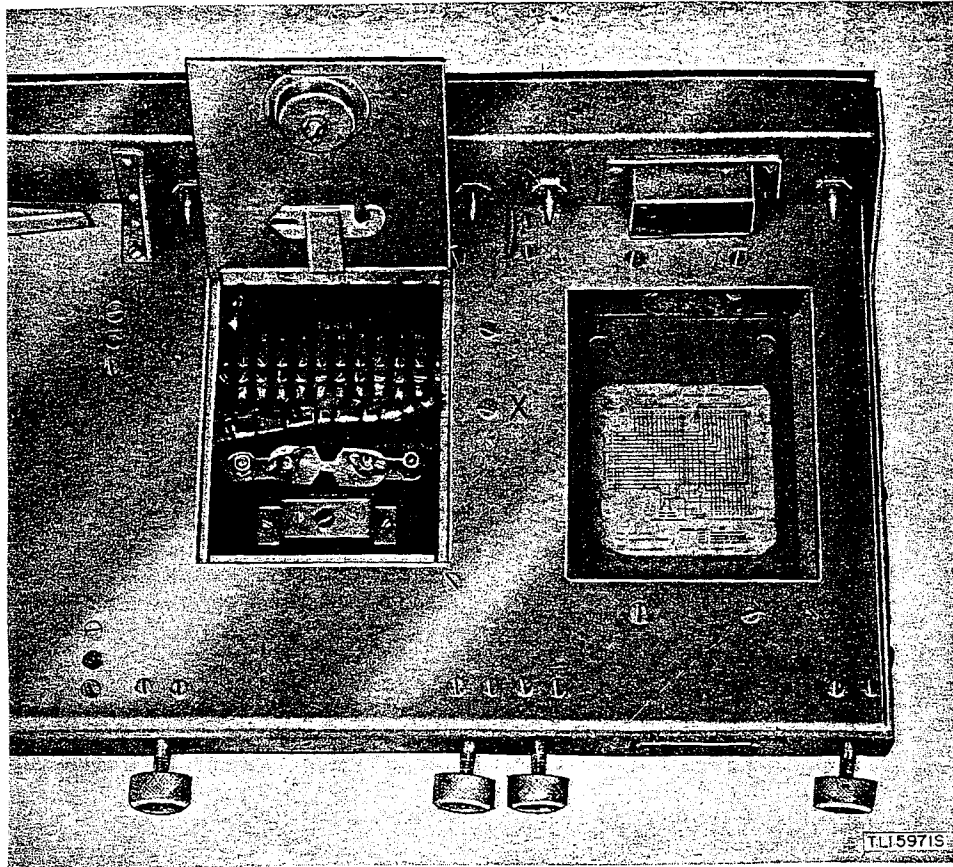

Figure 20. Mounting FT-237-(*), terminal box open.
c. TERMINALS. Two terminals are provided at the left end of the mounting. The antenna system is connected to the terminal designated TR for radio transmission and reception. A ground terminal is provided by a screw on the mounting or, on later mountings, by a ground binding post located near the antenna terminals. This terminal is generally used for grounding the sheath of coaxial cable CO-282. A door in the base plate of the mounting (fig. 20) permits access to battery fuse F401, and terminal strip TS401. One of the spare battery fuses is held in a clip on the under side of the door. The negative battery connection is
made at a screw on the under side of the mounting base plate. This screw is marked X on figure 20. Cordage from one or more remotely located interphone control boxes terminates at terminal strip TS401.